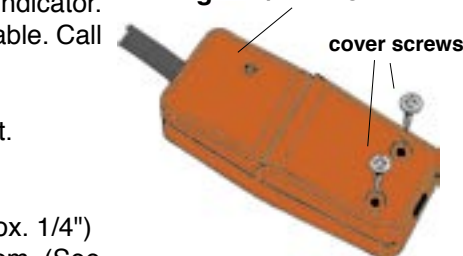

Fig. 2a
- Loosen 2 assembly screws (approx. 1/4") but **DO NOT FULLY REMOVE** them. (See Fig. 2a)